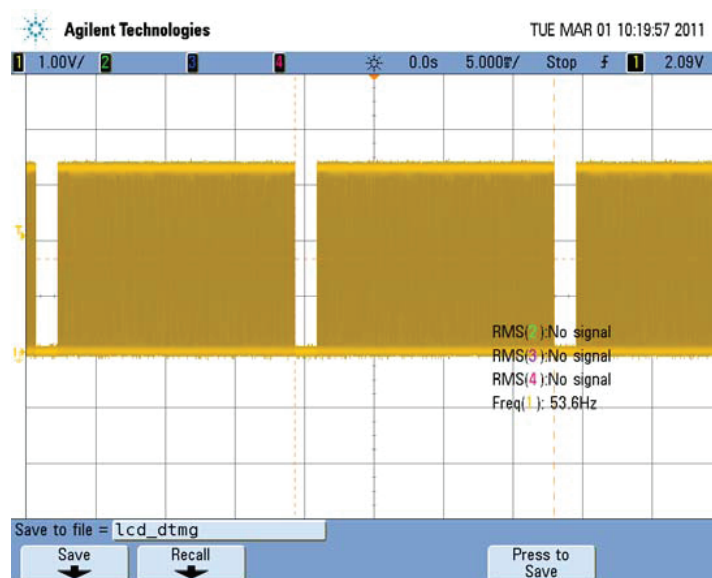

Figure 49
4. Check for LCD CC signal (very end – first on the top left in Figure 49.) If this signal does not exist, then the LCD is defective.